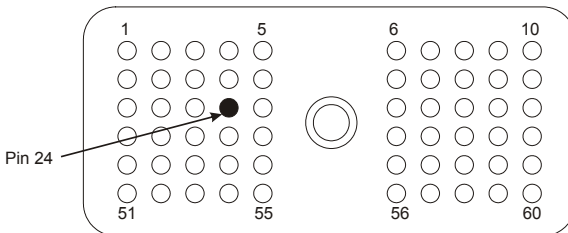

Figure 1
- Locate at the ECM on the driver's side of the engine. Solder and seal the white wire to the dark blue with gray stripe wire at pin 24 of the forward-most connector (C1) on the ECM (Figure 1).